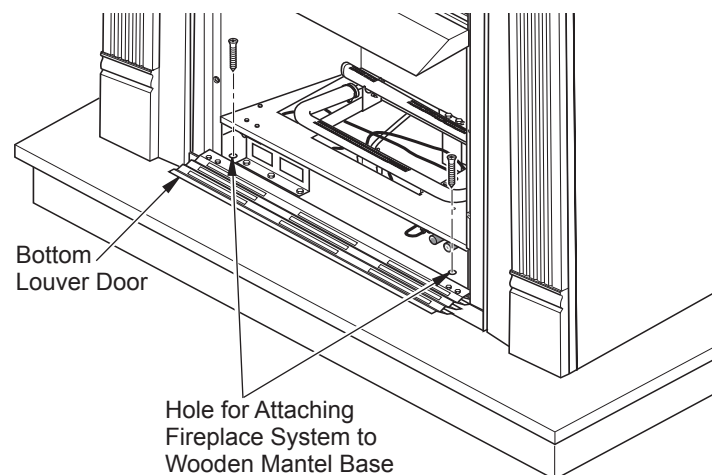

Figure 8 - Attaching Gas Fireplace to Mantel and Mantel Base
5. **Gas fireplace with louver door:** Lower bottom louver door. Use two screws provided in fireplace hardware package and attach fireplace to wooden base (see Figure 8). Close louver door.
4. **Gas fireplace with louver door:** Lower bottom louver door. Use two screws provided in fireplace hardware package and attach fireplace to wooden base (see Figure 8, page 3). Close louver door